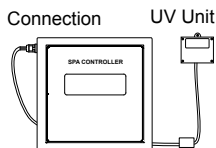

Figure 2
1. Turn the breaker to the spa OFF. We recommend that you drain your spa. Disconnect the CLEARRAY System from the controller, Figure 2.
2. Once the UV lamp has cooled off remove the CLEARRAY System enclosure cover (10) and gasket (9) by removing the four screws (11).